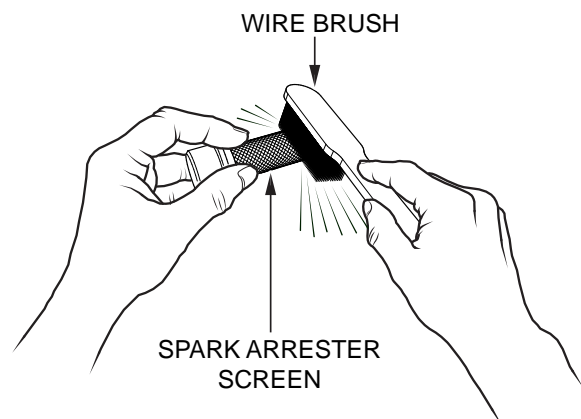

Figure 60. Cleaning the Spark Arrester
4. Carefully remove carbon deposits from the spark arrester screen (Figure 60) with a wire brush.